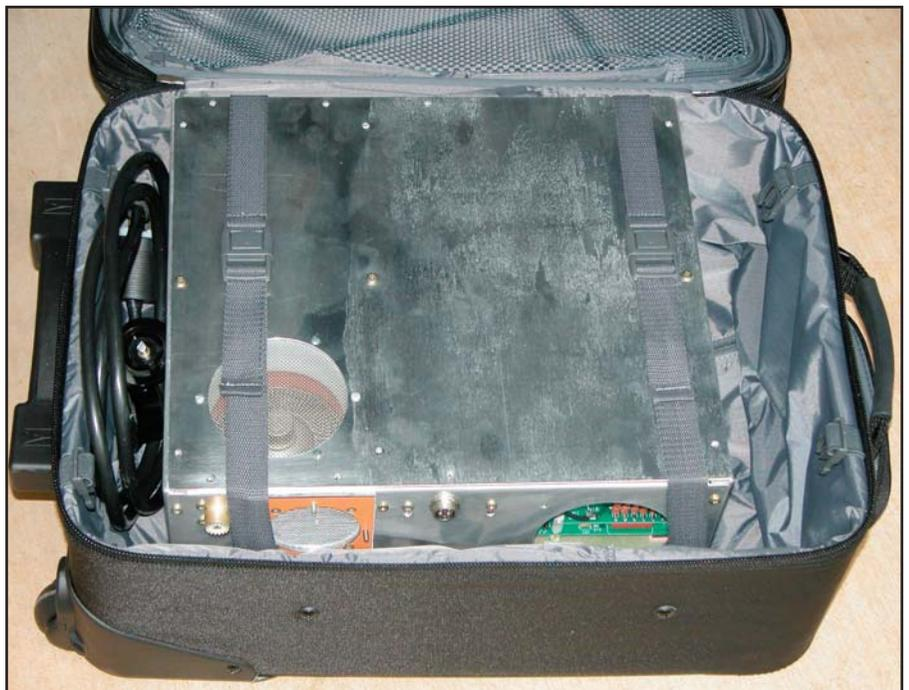

Fig 3—The amplifier packed in its Travel Pro bag and ready to go.
- It fits inside a rolling carry-on Travel Pro bag (8 pounds)—these bags are made of Teflon-coated ballistic nylon and are lightweight, durable, strong and water-resistant. Best of all, they have really great wheels and an extendable handle. See Fig 3.